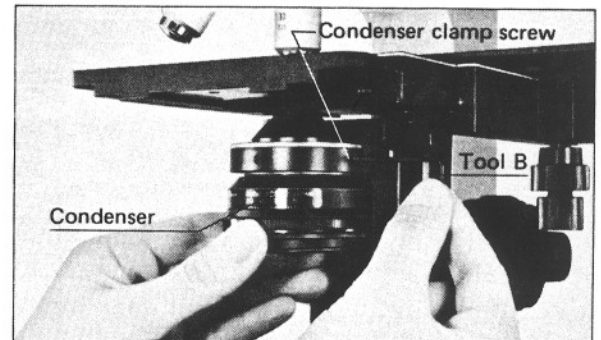

Fig. 10
- 3) Tighten the condenser clamp screw, using the tool B. (Fig. 10)